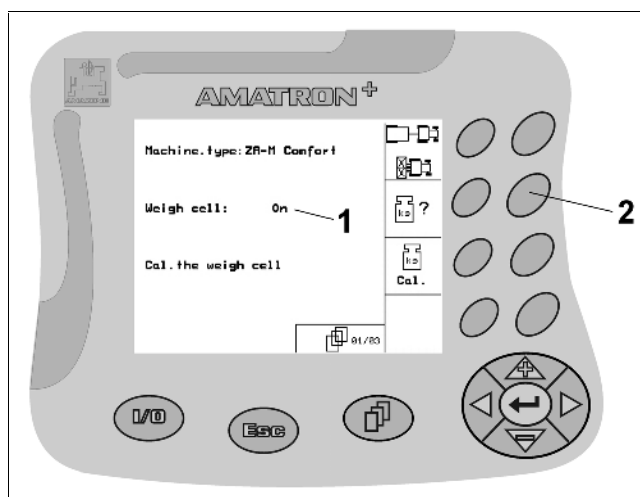

Fig. 15
- Press function key (Fig. 15/2) once
→ Function **On** (Fig. 15/1).